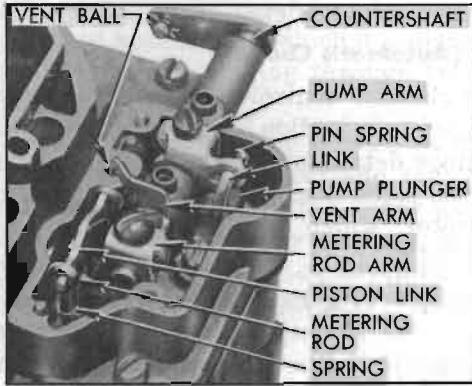

Figure 3-47—Metering Rod and Pump Operating Parts
3. Remove dust cover and gasket. Rotate eyes of metering rods off pins on vacuumer piston link and lift rods out, using care to avoid bending them. See figure 3-47.
4. Remove pump arm link and vent arm (if used), loosen screws in metering rod and pump arms, then remove pump operating counter-shaft and both levers. See figure 3-47.
35. Insert end of each metering rod in hooked end of metering rod spring, carefully push rod down to enter metering rod jet, then rotate eye of rod over pin on vacuumer piston link. Use care to avoid bending metering rod. See figure 3-47.